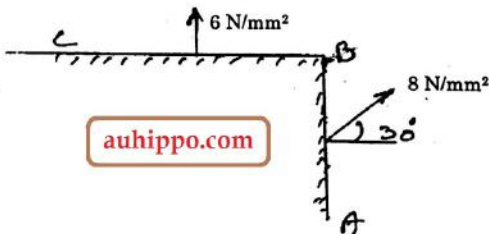

Fig. Q. 16(a)
16. (a) The intensity of resultant stress on a plane AB (Fig.Q.16(a)) at apoint in a materials under stress is  $8 \text{ N/mm}^2$  and it is inclined at  $30^\circ$  to the normal to that plane. The normal component of stress on another plane BC at right angles to plane AB is  $6 \text{ N/mm}^2$ . Determine the following :
- (iii) The maximum shear stresses. (15)